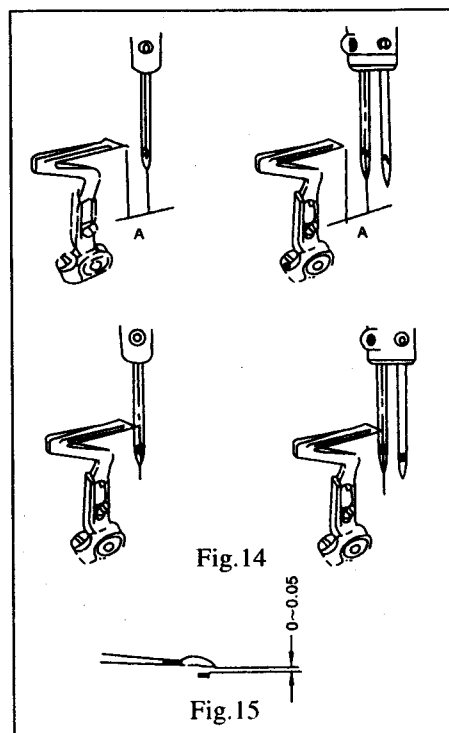

Fig.14
3. Lower Looper and Needle Fig.14 15